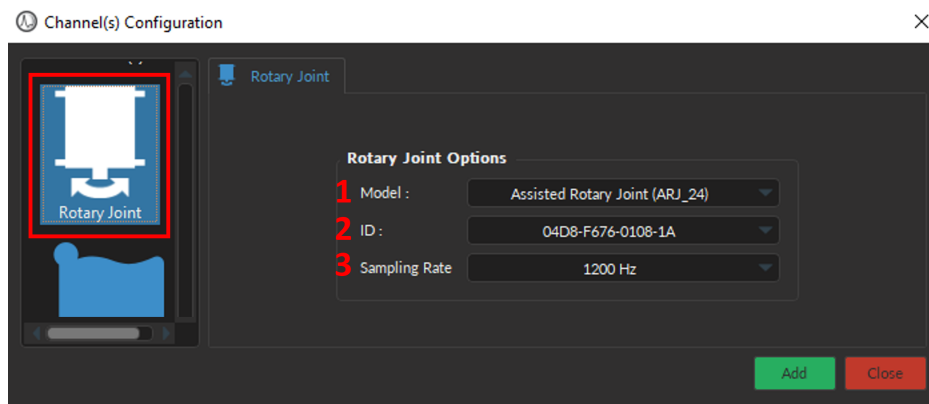

Figure 11.58: Rotary Joint channel
1. The **Model** (Fig. 11.58, 1) displays the type of rotary joint available. Assisted rotary joints (specifically ARJ24), when connected to the computer, will be automatically detected. Compatible devices include:
2. The **ID** (Fig. 11.58, 2) displays the serial number of the rotary joint in question, which identifies the proper device when more than one rotary joint of the same model is connected to the computer.
3. The **Sampling Rate** (Fig. 11.58, 3) specifies the number of data points per second that are saved in the .doric file. The **Sampling Rate** can range between 10 Hz - 1200 Hz.